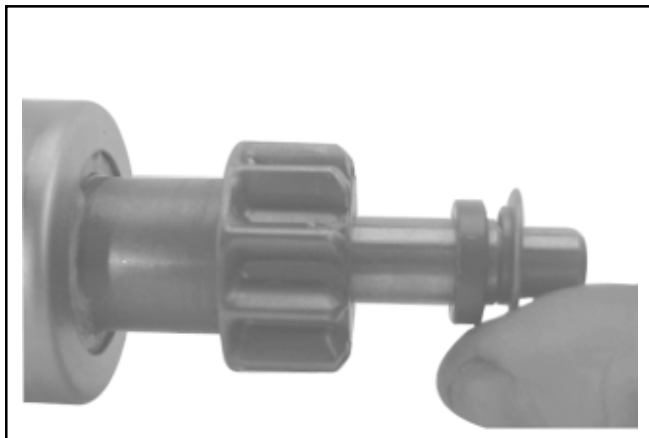

Figure 8-58. Installing Thrust Washer.
3. Install the offset thrust (stop) washer so the smaller "offset" of the washer faces the retainer/collar. See Figure 8-58.